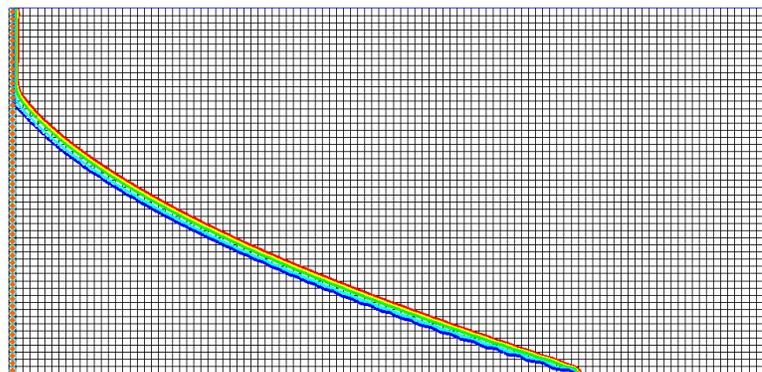

Figure 7 Time step 12 (after 55 minutes)
- Select time step 12 in the time step window (Figure 7).